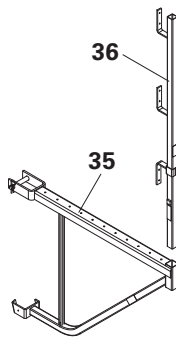

Fig. B2.14
The VARIO Platform Bracket VBK 90 (35) with Guardrail Post HSGP-2 (36) is fitted on the internal corner. (Fig. B2.14)